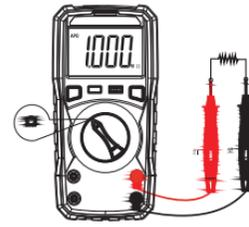

Figure 4
(3). RESISTANCE MEASUREMENT (Figure 4)